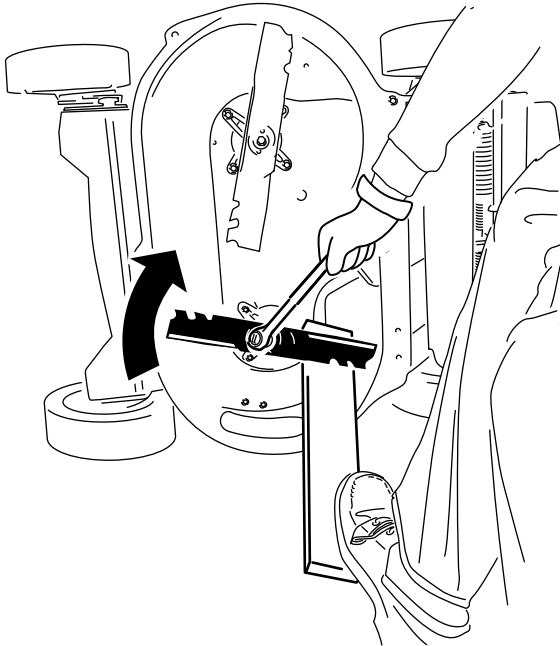

Figure 36
2. Steady each blade with a board and turn the blade bolt clockwise with a torque wrench as shown in Figure 36; torque the blade bolt to 82 N·m (60 ft-lb).